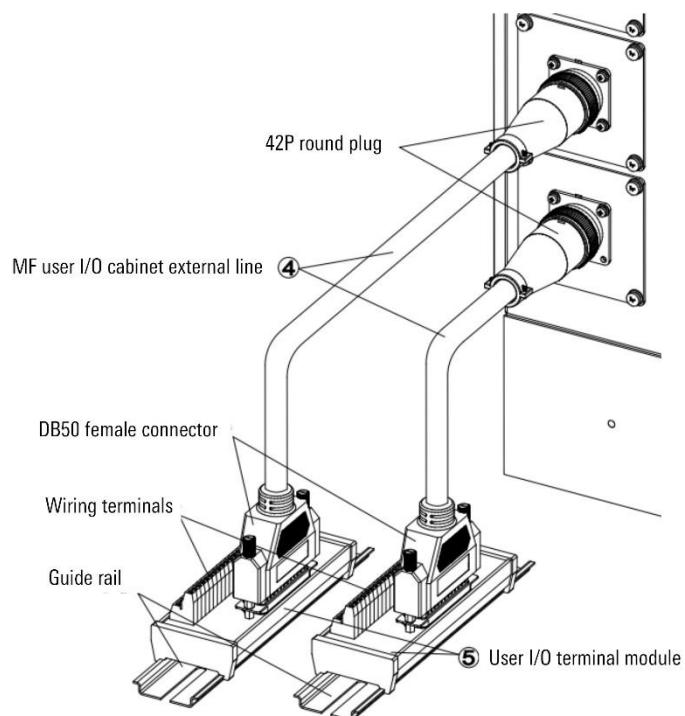

Figure 16-14 Connecting the user I/O terminal module
Step4. Connect one end of the MF user I/O cabinet external line with a 42P round plug to the 42P square flange socket on the cabinet, and the other end of the DB50 female connected connector to user I/O terminal module on the DB50 male socket, user I/O terminal module is fixed in the appropriate position through the guide rail according to the actual needs of the customer. Users can use the I/O functions through the terminal blocks on it. The two user I/O terminal modules are DI module and DO module respectively. There is no hard distinction requirement. They are distinguished according to the actual convenience of use. Refer to Figure 16-14.